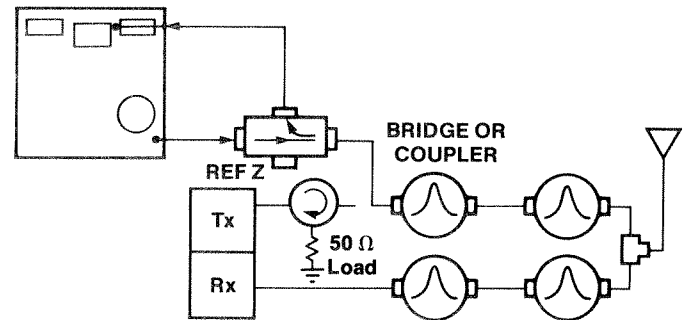

Figure 7
- 13 Connect a VSWR bridge to the input of the first transmitter cavity and adjust the center frequency of that cavity only for maximum return loss on the CRT. (See Figure 7 and TG-6 for return loss measurement).